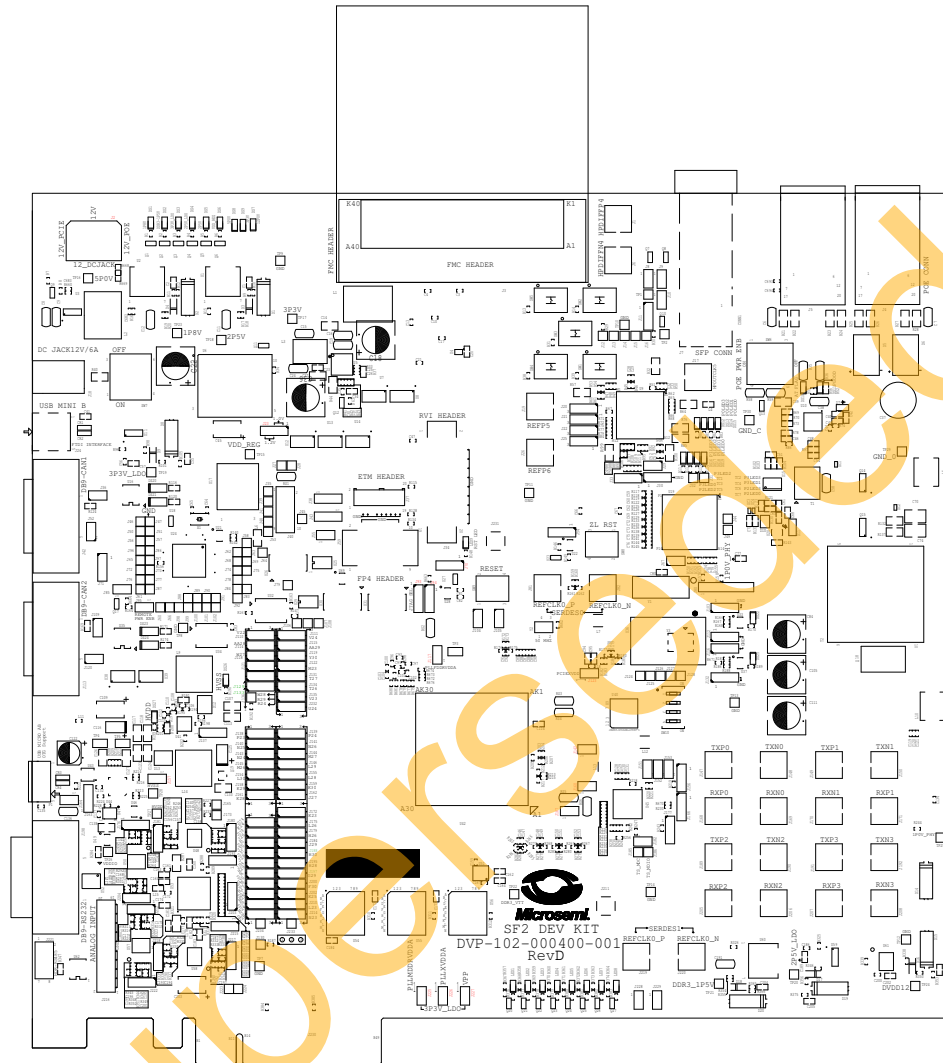

Figure 18 • SmartFusion2 Development Kit Silkscreen Top View
- See Figure 18 on page 23 for location of the jumpers. These connections are required for connecting the MMUART_1 TXD and RXD signals to the FTDI USB to UART bridge available in SmartFusion2 Development Kit board.
Figure 18 shows the jumper locations in Development Kit board.
- The location of the jumpers in Figure 18 are searchable.